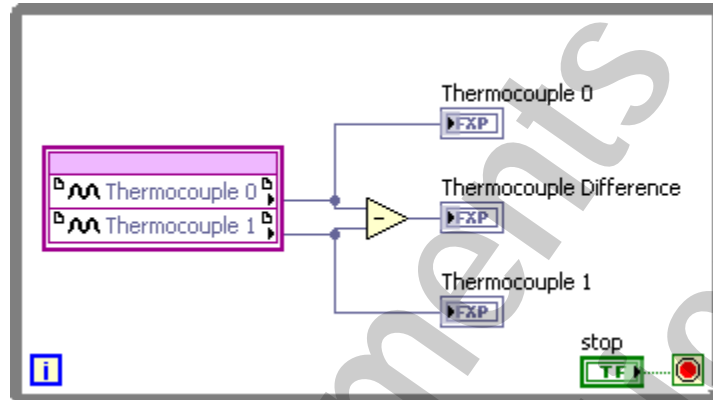

Figure 4-5. CompactRIO I/O Block Diagram
4. In the CompactRIO IO VI, build the block diagram shown in Figure 4-5.